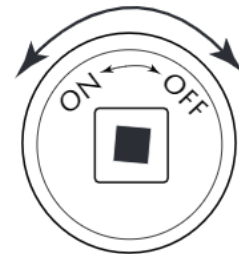

Fig. 6. Key Valve Face
1. Insert key into shut-off valve and secure into square end (see Figs 6 & 7).
Low flame	<ol style="list-style-type: none"><li>1. Ensure the base media is at least 1-inch in diameter and top media is no more than 1-inch over top of burner.</li><li>2. Ensure all shut-off valves and key valve is fully open. See page 7; Fig 6.</li><li>3. Check for spider webs inside the orifice.</li><li>4. Check gas pressure.</li></ol>